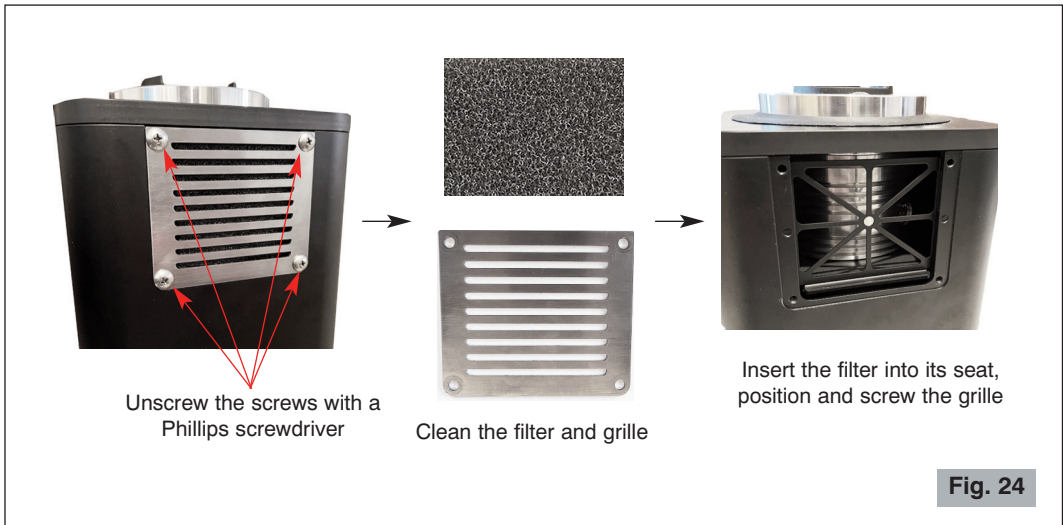

Fig. 24
- **To clean the filter** and the grille, unscrew the ventilation grille and remove the filter (see Fig. 24).